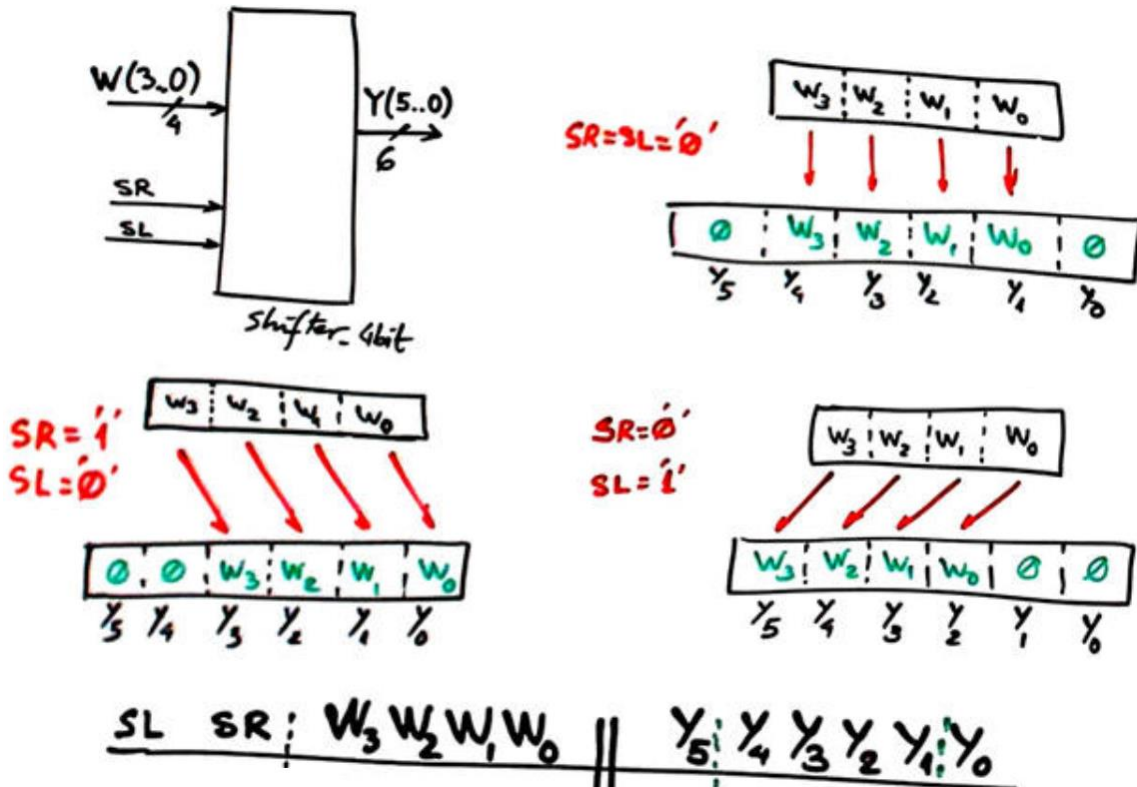

Fig. 5.
For the 4-bit (nibble) shifter operator circuit represented in Fig. 5, controlled by shift-right (SR) and shift-left (SL) signals, answer the following questions: